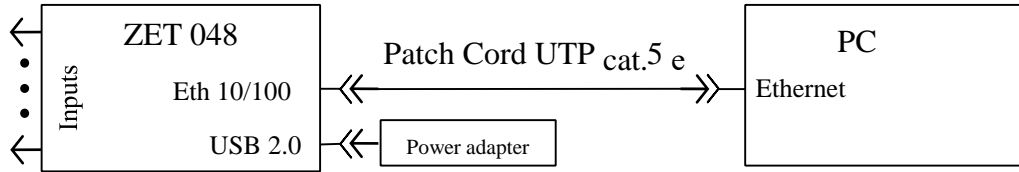
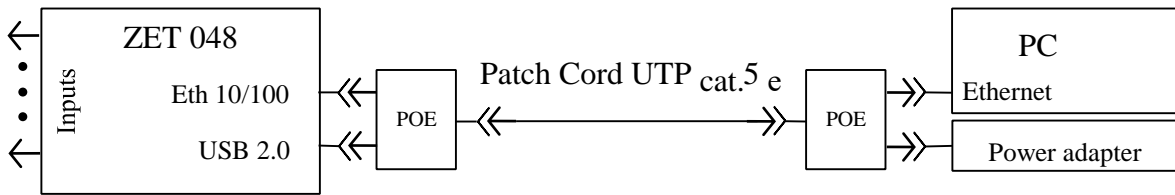
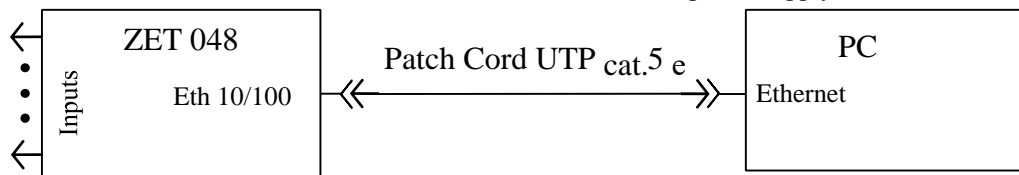

Figure 1.5. ZET 048-I connection to a PC via Ethernet interface with external power supply
Figure 1.6. ZET 048-I connection to a PC via Ethernet interface with power supply via Ethernet interface
Figure 1.7. ZET 048-E connection to a PC via Ethernet interface
1.6.2.2.2 The Recorder shall be connected to a PC via Ethernet 100Base-T LAN (if the relevant option is available) according to the electrical connections diagram (Figure 1.5, Figure 1.6, and Figure 1.7). Cat 5 twisted pair cable (Patch Cord UTP cat. 5e) termination diagram when the Recorder is connected directly to a PC is provided in Table 1.4. Cat 5 twisted pair cable (Patch Cord UTP cat. 5e) termination diagram when the Recorder is connected to a PC through a switch is provided in Table 1.5. Description of the Recorder operation and settings is provided in the relevant section of “Operator Manual. Part 1”.